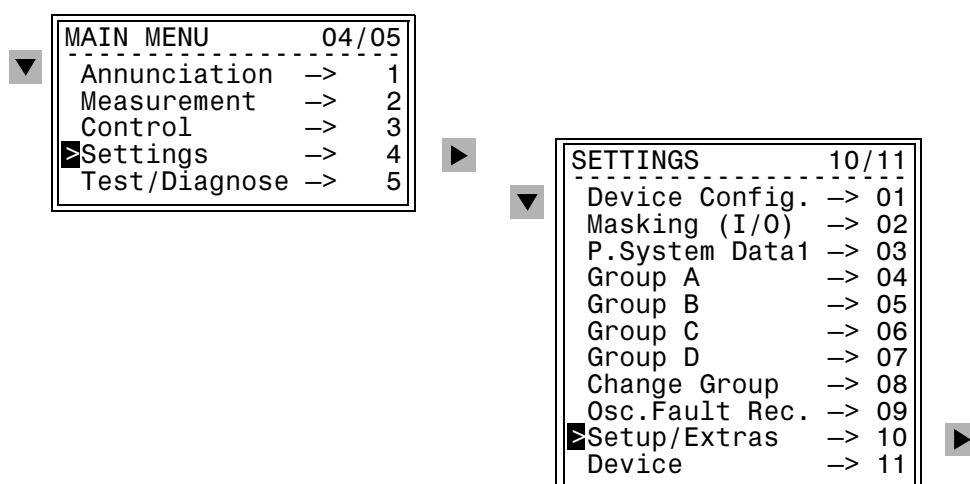

Figure 3-1 Sub-menu **SETTINGS**
- Using the ▼ key, select the menu item **Settings**, and move to the device settings using the ▶ key. The **SETTINGS** menu appears, as shown in Figure 3-1.